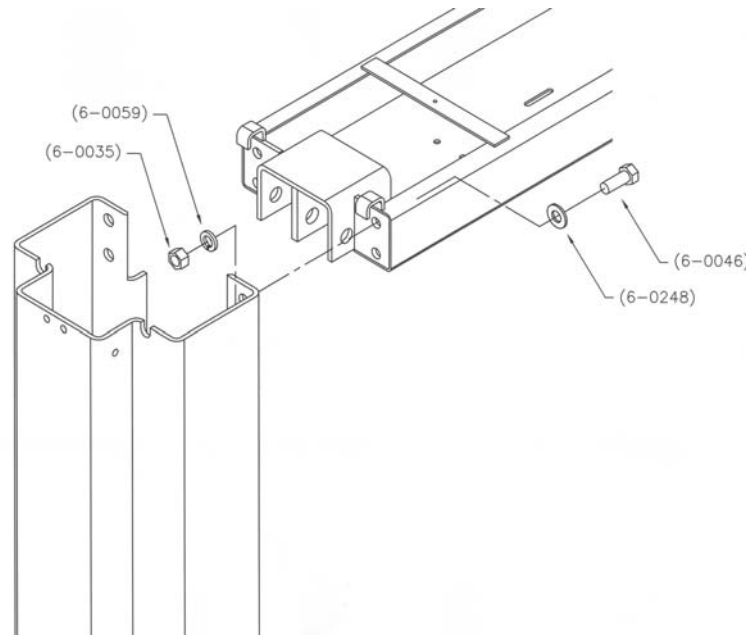

Figure 5 – Crossmember Assembly
2. Using a stepladder, install the crossmember using eight (8) ½”-16UNC x 1 ¼” lg. hex head bolts, eight (8) ½” ID lock washers, eight (8) ½” hex nuts and eight (8) ½” flat washers. See **Figure 5**.